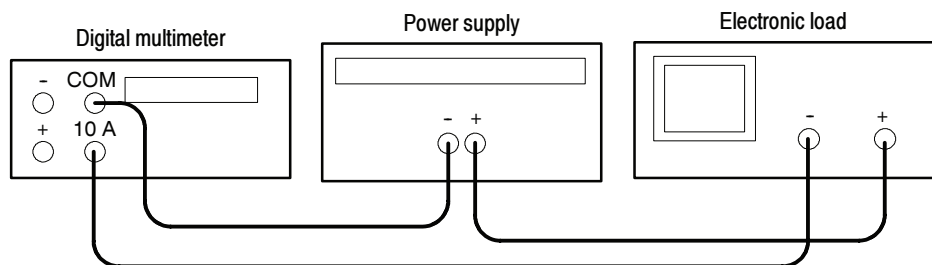

Figure 10: Constant current load test setup
2. Ensure that the power supply output is disabled. Connect the Current Meter and electronic load to the front panel OUTPUT 1 terminals. See Figure 10 for details.
21. Ensure that the power supply output is disabled. Connect the Current Meter and electronic load to the front panel OUTPUT 2 terminals. Maintain the equipment configuration and polarities shown in Figure 10.
2. Ensure that the power supply output is disabled. Connect the Current Meter and electronic load to the front panel OUTPUT 3 terminals. Maintain the equipment configuration and polarities shown in Figure 10.